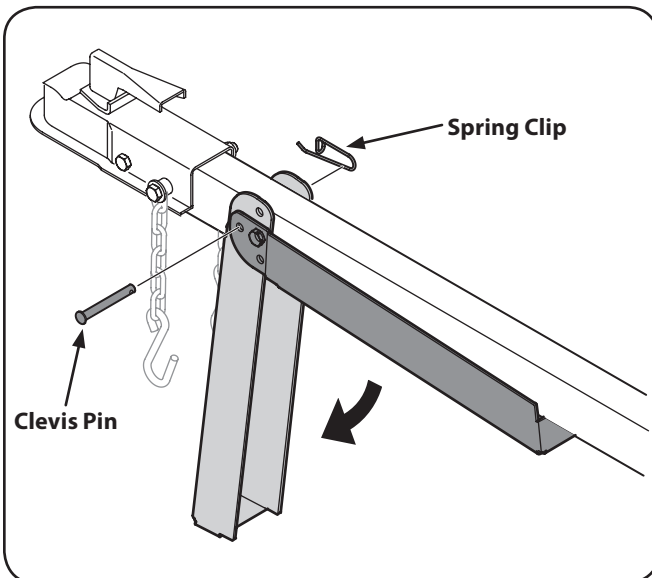

Figure 3-4
2. Secure the jack stand in position with the clevis pin and the spring clip. See Figure 3-4.